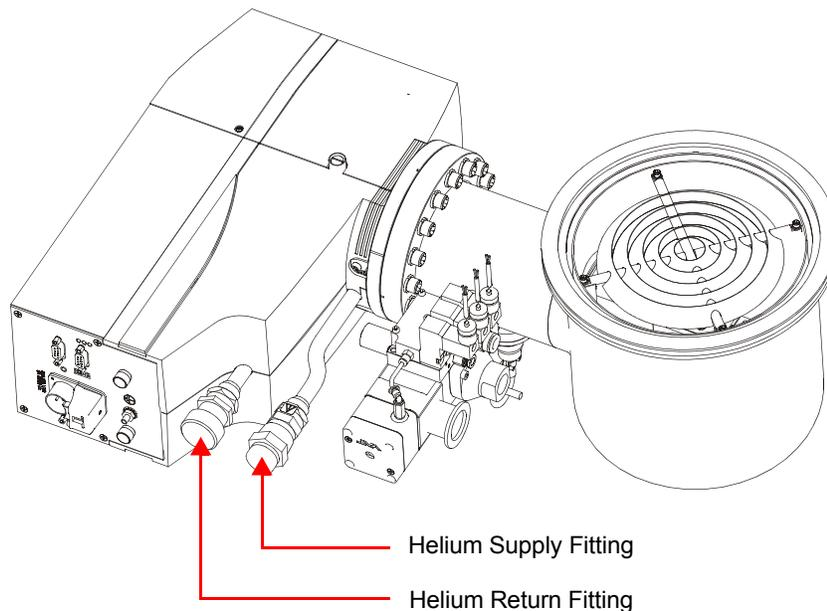
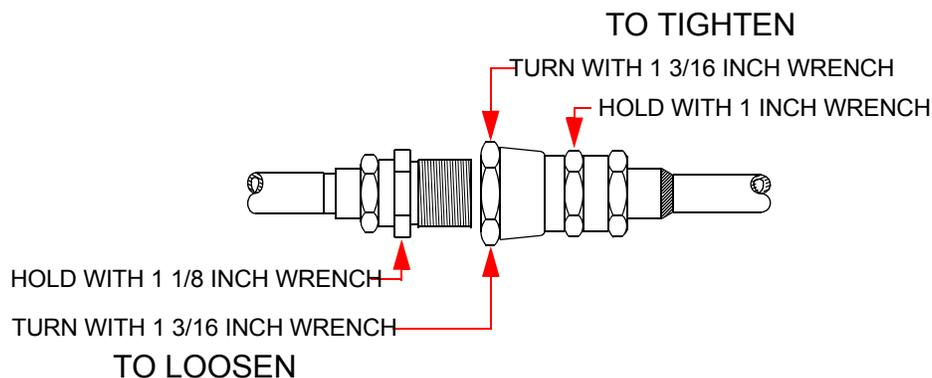

Figure 3-3: Helium Supply and Return Connection Locations
Figure 3-4: Self-Sealing Couplings for Helium Flex Lines
<p style="text-align: center;">CAUTION</p> <p style="text-align: center;">Equipment Damage</p> <p>Ensure the helium flex lines are connected and disconnected from the cryopump and compressor appropriately, and as shown in Figure 3-4 on page 3-7. Failure to follow this procedure could damage connector O-ring seals or cause a helium circuit leak.</p>
NOTE: Refer to Figure 3-3 and Figure 3-4 on page 3-7 during this procedure.
2. Working quickly to minimize leaking, connect the Gas Return line to the Gas Return connector on the rear of the compressor. Then connect the other end of the Gas Return line to the Gas Return connector on the cryopump or helium manifold. Using two wrenches as shown in Figure 3-4, tighten the connector.
3. Working quickly to minimize leaking, connect the Gas Supply line to the Gas Supply connector on the rear of the compressor. Then connect the other end of the Gas Supply line to the Gas Supply connector on the cryopump or helium manifold. Using two wrenches as shown in Figure 3-4, tighten the connector.
NOTE: Refer to Figure 3-3 on page 3-6 and Figure 3-4 during this procedure.
- Using two wrenches as shown in Figure 3-4, disconnect the Supply and Return self sealing coupling connectors quickly to minimize helium leakage.